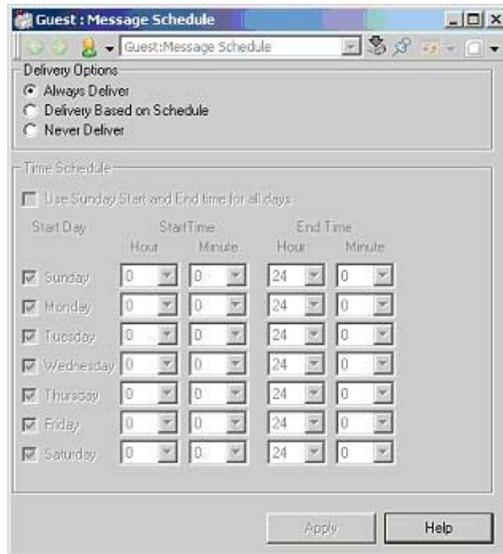

Figure 109. Message Schedule (Always Deliver)
5. Right-click on the user and select **Message Schedule** from the context menu that appears. This opens the Message Schedule shown in Figure 109. The default value in the Delivery Options frame is **Always Deliver**.